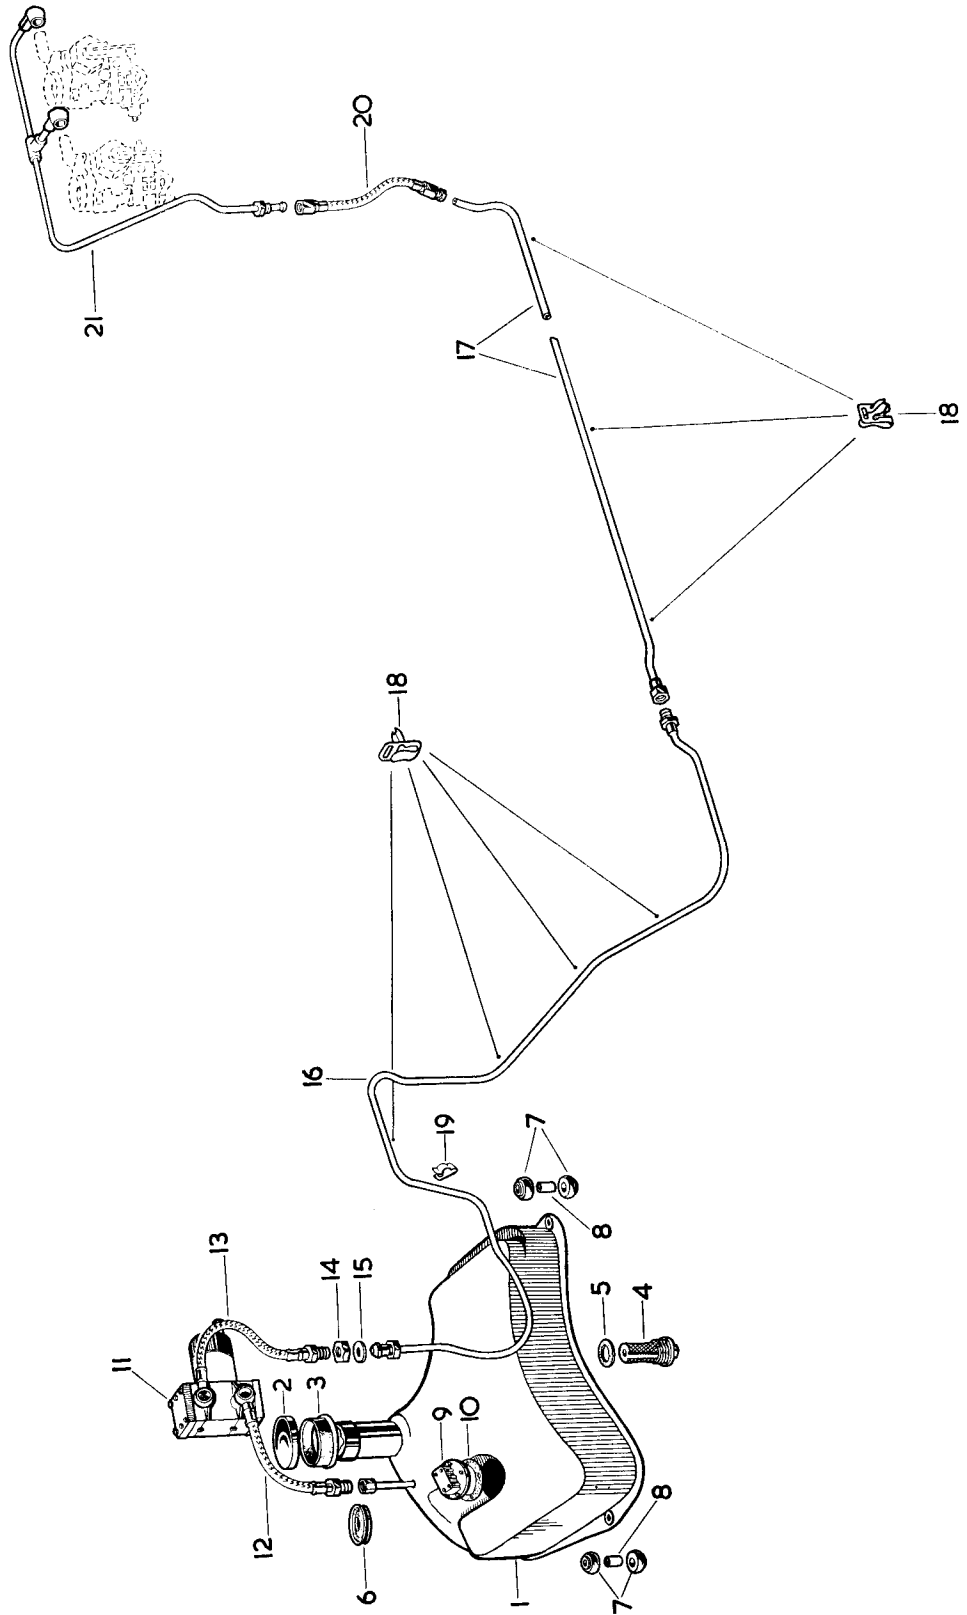

Fig. 24. The fuel system
Remove both inlet and outlet pipes (12 and 13) (Fig. 24) from the side of the pump (11) by withdrawing the banjo bolts and washers. Disconnect the electrical feed cable to the pump by unscrewing the knurled
Disconnect the flexible petrol pipe (12) (Fig. 24) from the tank by unscrewing the union above the large grommet (6). Remove the petrol gauge tank unit cover from the left-hand side of the luggage compartment floor and disconnect the three electrical cables.
Remove the six setscrews and twelve copper washers attaching the unit (9) (Fig. 24) to the petrol tank.